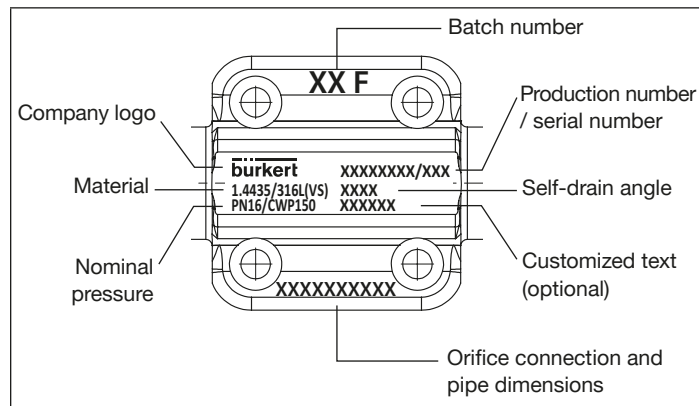
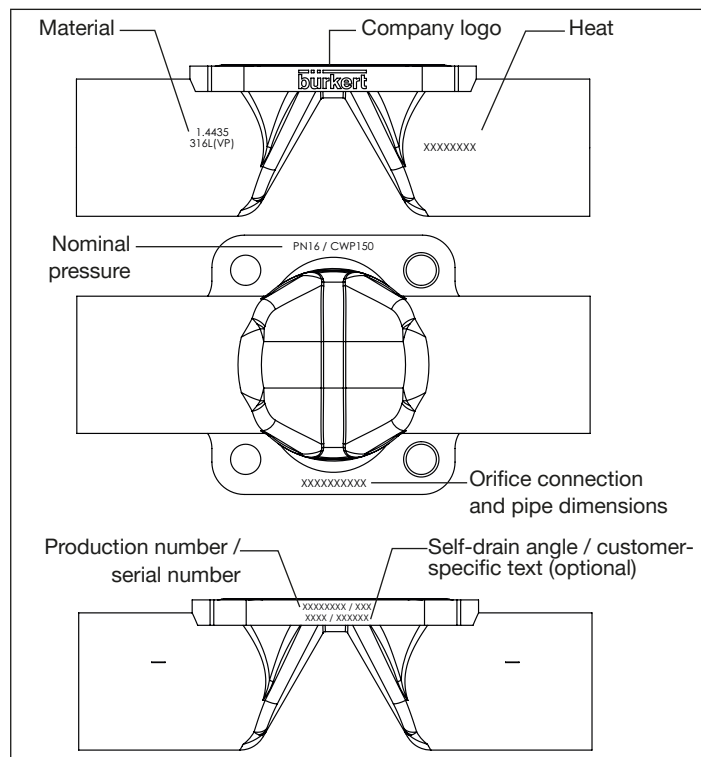

Fig. 4: Labelling of forged steel valve body
Fig. 5: Labeling of the tube valve body (VP)
The self-drainage-angle ( $\alpha$ ) depends on the valve body size (diaphragm size) and the inner diameter of the port connection (DN). The self-draining angle is indicated as a value on forged steel valve bodies (VS) and tube valve bodies (VP) (see “Fig. 4” and “Fig. 5”).